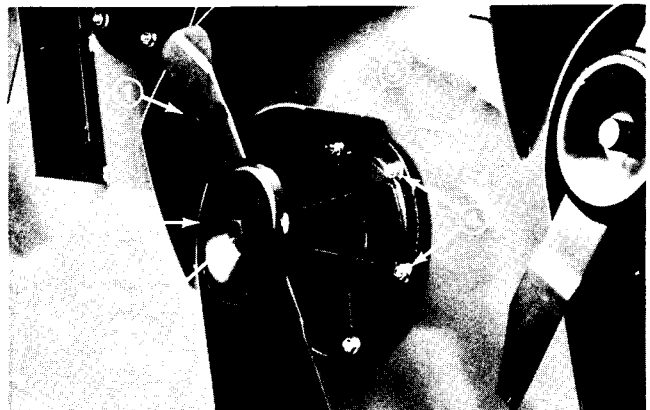

Figure 17
2. Using a rag or thickly padded glove, grasp end of blade. Remove blade bolt, lockwasher, anti-scalp cup and blade from spindle assembly (Fig. 17).